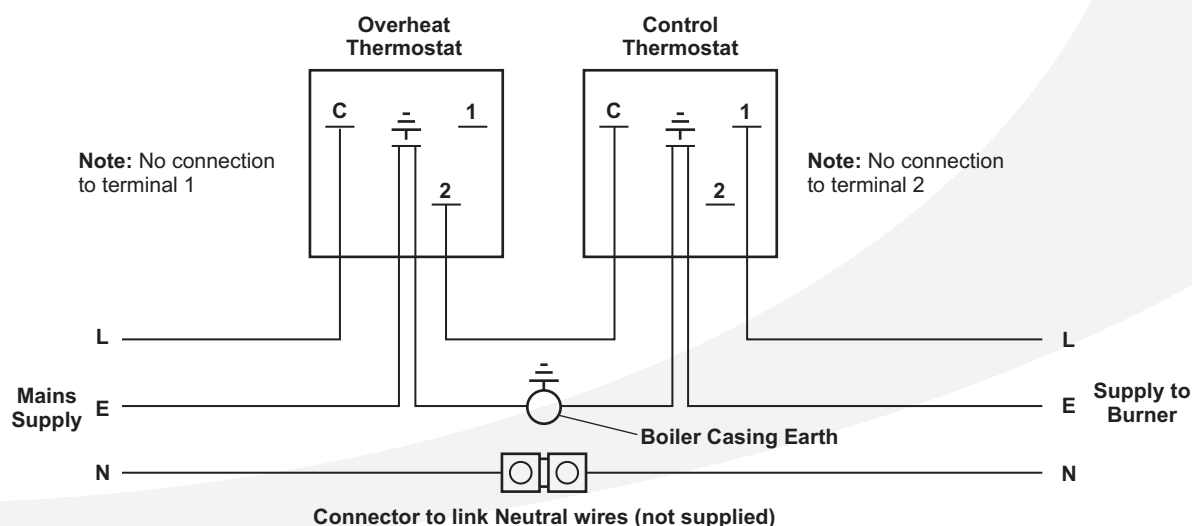

Figure 8-8: Dual Thermostat Wiring Diagram - Boiler House models
5. Pass a switched mains power supply through the other cable support bush and connect it to the overheat thermostat (refer to Figure 8-8) as follows: